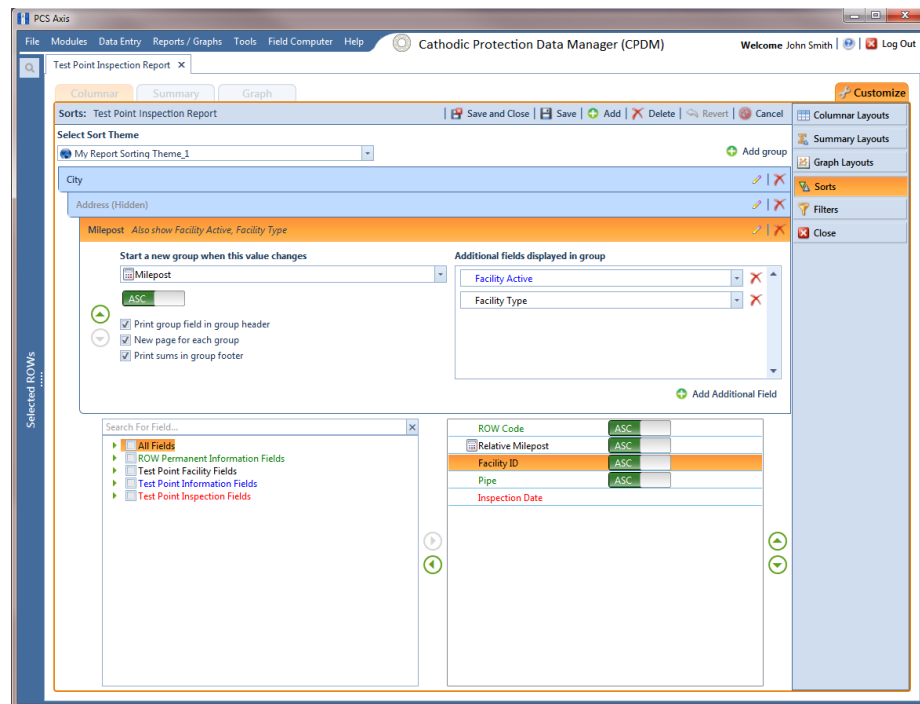

Figure 16-42. Sort Theme Groups
- a Click  **Add group** to add a new group (Figure 16-42, page 761).
- c If you want to add another field in the group, click  **Add Additional Field**. Then click the down arrow and select a field in the selection list. The title bar of group includes the name of each field (Figure 16-42, page 761).